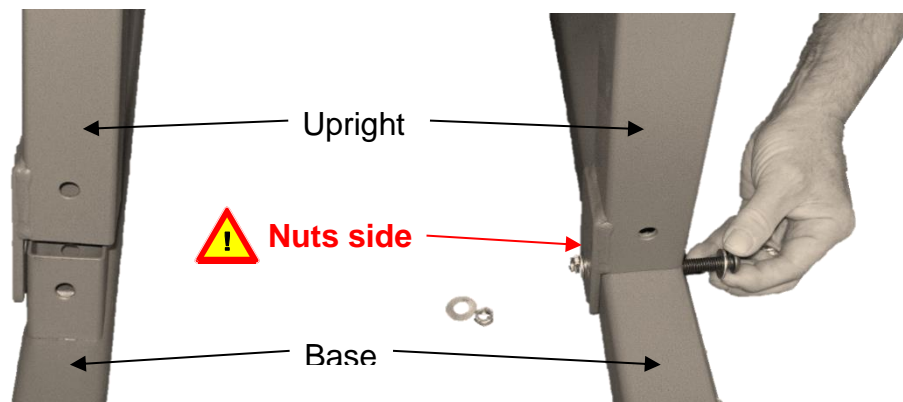

Figure 1: Base & Upright assembly step 1
1. Assemble one base with one upright, using two (2) supplied 2-3/4" long bolts, four (4) washers and two (2) nylon nuts, according to **Figure 1** below.